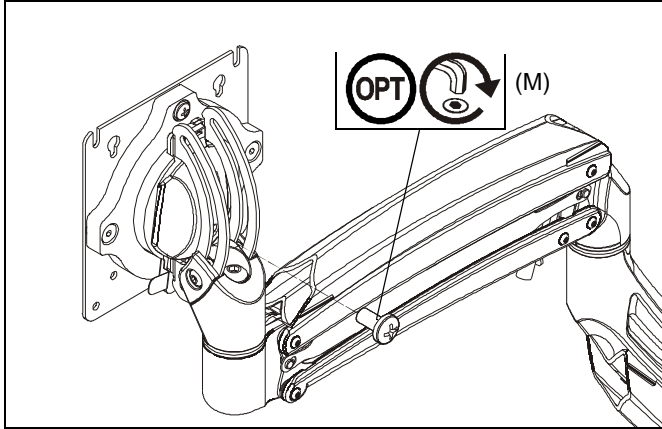

Figure 22
NOTE: In order to prevent display from being easily removed from mount using the quick release lever, install M4x4mm security screw (M) into lower hole on back of faceplate. (See Figure 22)